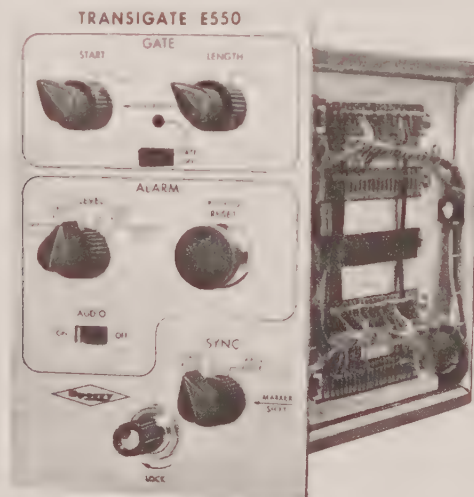

Figure 9-1
1. FUNCTION OF CONTROLS (Figure 9-1)